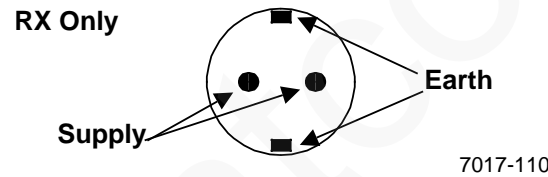

Figure 4. RX Europe Wall Outlet
**RX Europe Only:** Measure the AC voltage between pin. Meter = 200 to 240 VAC (Figure 4).
**RX, Europe Only:** Measure the AC voltage between supply pin and earth. Meter = 200 to 240 VAC (Figure 4).